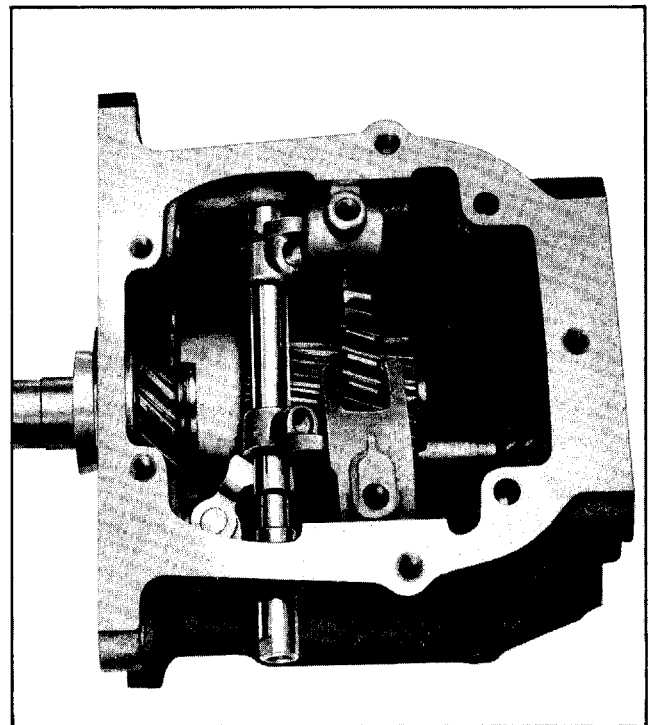

Fig. 7-39 Installing Selector Shaft
13. Insert right hand end (without flats for lever) of transmission selector shaft in hole in left side of transmission case and push it inward slipping first the long shifter lever then the short lever on the shaft as shown in Fig. 7-39 so long lever will be on left side of transmission case. **CAUTION:** The selector shaft oil seal has a feather edge pointing inward so shaft must be installed from left to prevent damage to seal. Be sure inner selector lever is in notch in selector shaft and selector shaft passes on top of lever.